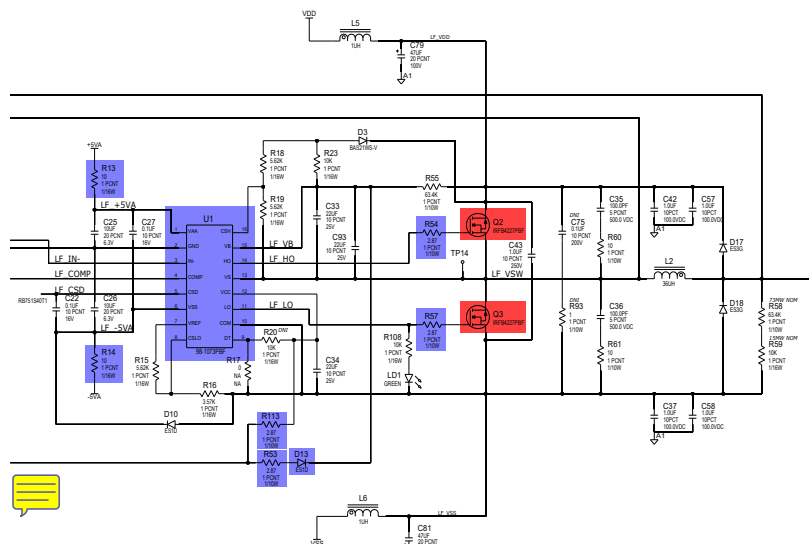

Figure 8.5.2 - Components to check if amplifier MOSFETs fail (LF shown)
- Use the highlighted schematic in Figure 8.5.2 as a component check guide. Replace components in red and check components in blue.